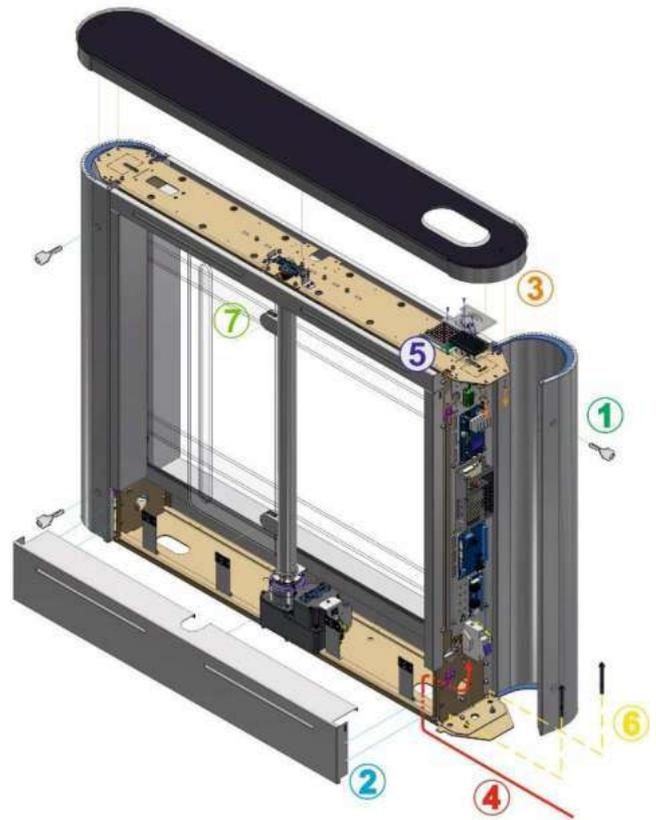

Fig. 23 - General view of the "Sweeper-BM-1" turnstile cabinet installation
1. - Locks to be unlocked by key and door to be turned (See Fig. 23);